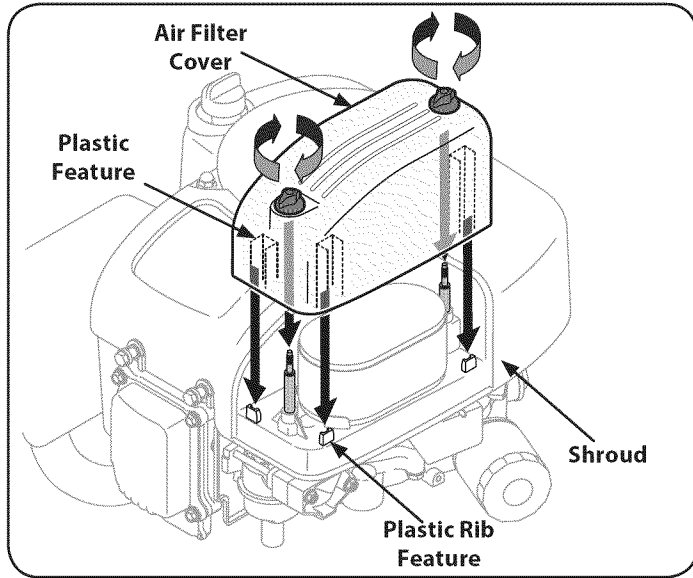

Figure 18
- Attach the air filter cover, making sure to align plastic rib features on the shroud to the plastic features on the air filter cover. See Figure 18. Turn thumb screws clockwise until snug. Check for any misalignment.